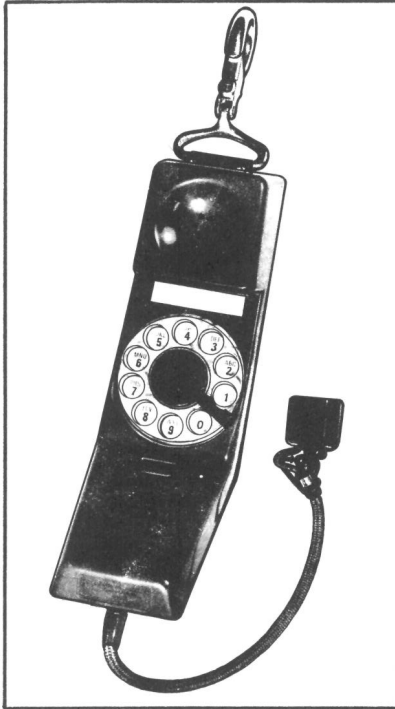

FIGURE 4. QSE4B2 Handset
2.03 The QSE4A2 and QSE4B2 handsets are the same as the QSE4A1 and QSE4B1 types respectively, except that they use a cord equipped with a 346A plug. This plug-ended cord provides an arrangement whereby a basic coded handset can be adapted, by means of plug-in cords, to all central office tests requiring the use of a handset. See Figure 4.